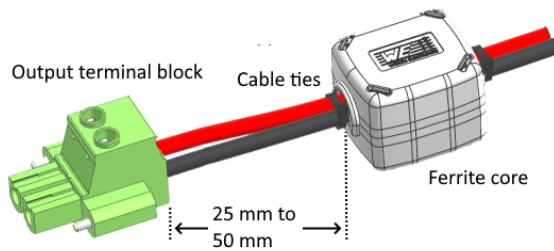

Figure 4-10: Clamp ferrite core on cable
7. Add a ferrite core on the output cable to reduce the electronics noise and suppress high-frequency signals on the cable. Clamp the ferrite core on the cable about 25 mm to 50 mm away from the output terminal block as shown in Figure 4-10.